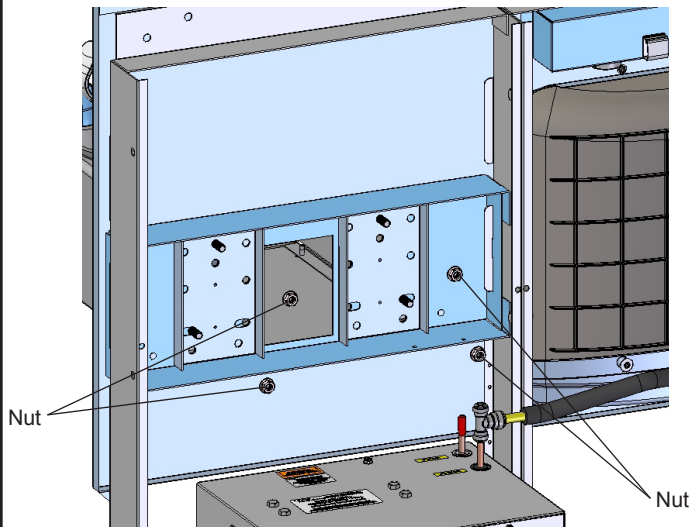

Figure 7 – Fountain Installation
7. **Install** reset switch for bottle filler (Fig 7). Connect the switch wire to the extension wire on the back of the bottle filler. Wrap up the excess cord.
10. **Install** fountains with (4) 5/16-18 HHMS, (4) 5/16-18 nuts & (from original installation) (Fig 7). Connect the 1/4" water lines from the fountain to the remaining opening on the tee at the remote chiller (cut lines to fit as needed), (Test fit refrigerated panel to make sure there is a tight joint between it & the main panel before fully tightening mounting screws.)